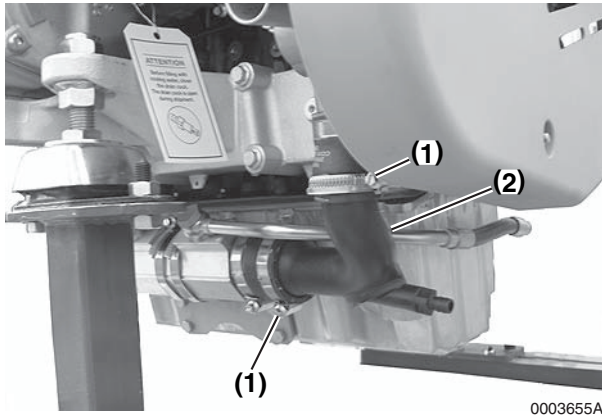

Figure 7-11
2. Loosen clamps (**Figure 7-11, (1)**) and remove seawater pipe (**Figure 7-11, (2)**).
5. Install seawater pipe (**Figure 7-11, (2)**) and tighten clamps (**Figure 7-11, (1)**).